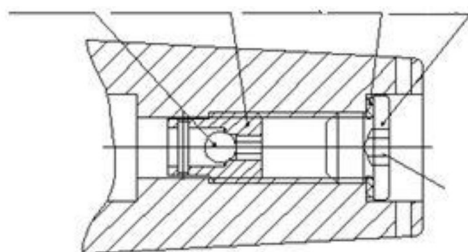

Figure 7 Oil drain structure
See figure 7 for structure of oil drain valve.
- 2) Take the oil plug down with socket head screw wrench as figure 7 shown, do not take down the valve element;